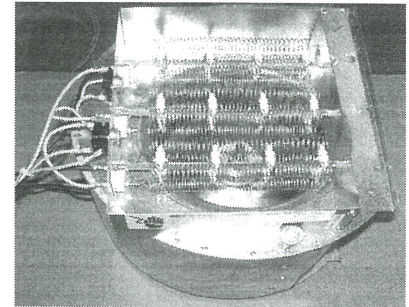

FIG. 1- Heater mounted onto the blower assembly.
5. Heater module is installed onto the blower assembly (see fig. 1). Secure the heater to the standoffs on the blower inlet with (3) screws and (3) washers provided.